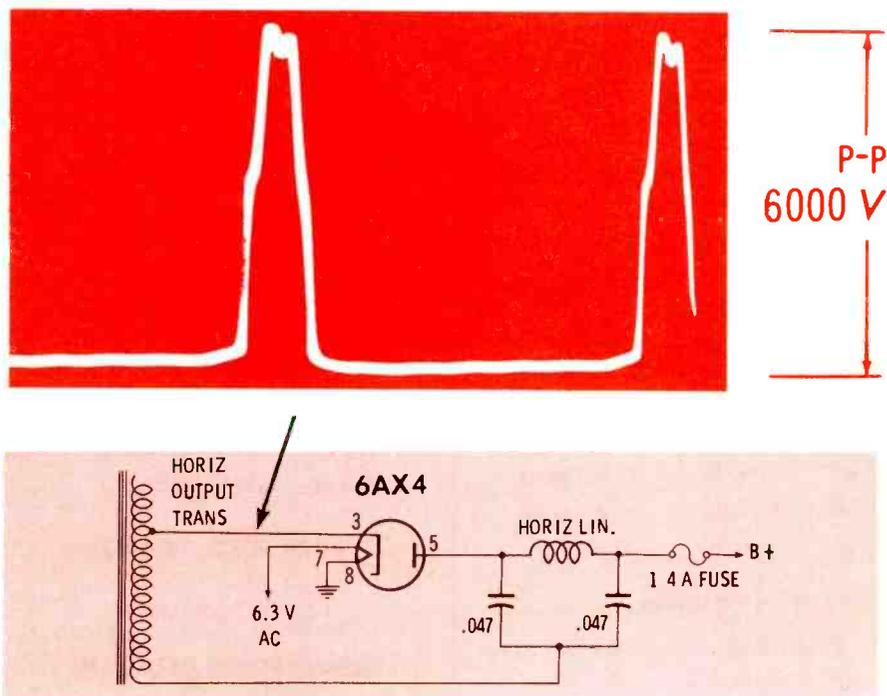

Fig. 1. Schematic of damper circuit showing voltage waveform at the cathode.
The damper tube is one of the hardest-worked tubes in a TV receiver because it is exposed to both high DC and pulse voltages. Even though damper tubes have been especially engineered for this type of service, there is a tendency for the filament to sag slightly with age. This reduces the cathode-to-filament spacing and thus lowers the potential at which arc-over will occur (Fig. 1). Arc-over can cause: (1) an open filament, (2) flashing in the picture, or (3) a blown fuse.